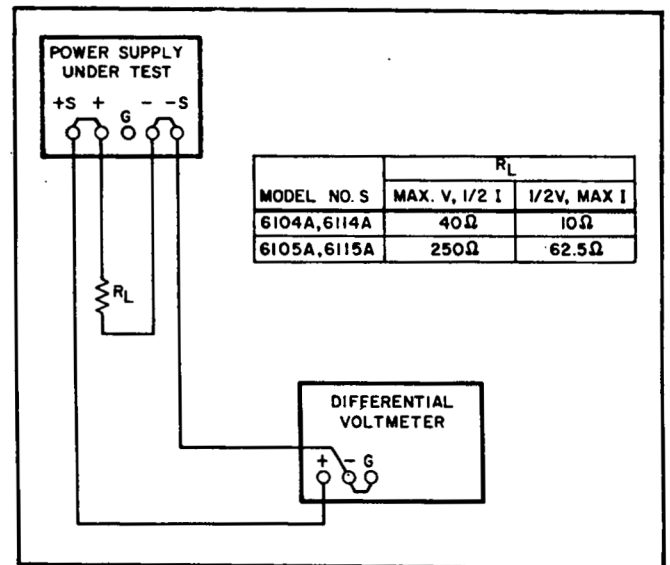

Figure 5-2. Constant Voltage Load Regulation Test Setup
- Connect load resistor (R_L) indicated in Figure 5-2 (maximum voltage, 1/2 maximum current) across output terminals of supply.
a. Connect load resistor (R_L) indicated in Figure 5-2 (maximum voltage, 1/2 maximum current) across output terminals of supply.
a. Connect test setup shown in Figure 5-2.
- a. Connect test set up shown in Figure 5-2; select R_L as applicable for the voltage/current range being checked.
- a. Connect load resistance (full voltage/half current) and differential voltmeter as illustrated in Figure 5-2.
- Connect load resistance (full voltage/half current) and differential voltmeter as illustrated in Figure 5-2.